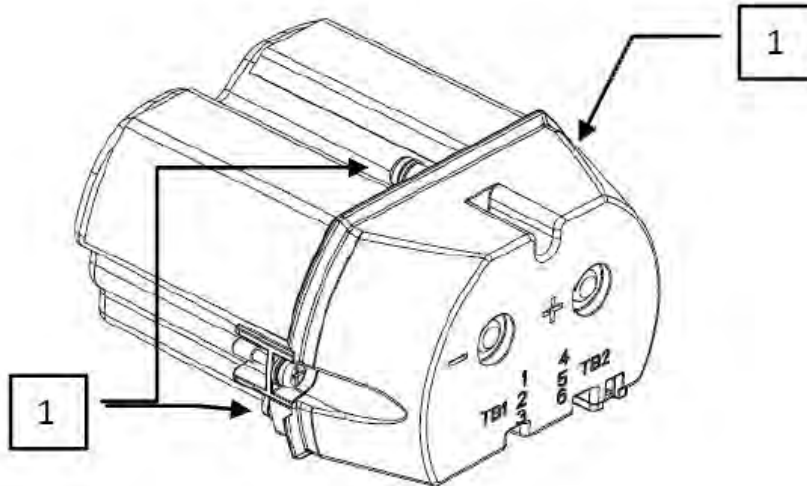

Figure 5-2: IS Battery Pack
- 3 Remove top of battery pack by using a #1 Philips or 1/8" slotted screwdriver for the screws identified as #1 in Figure 5-2.